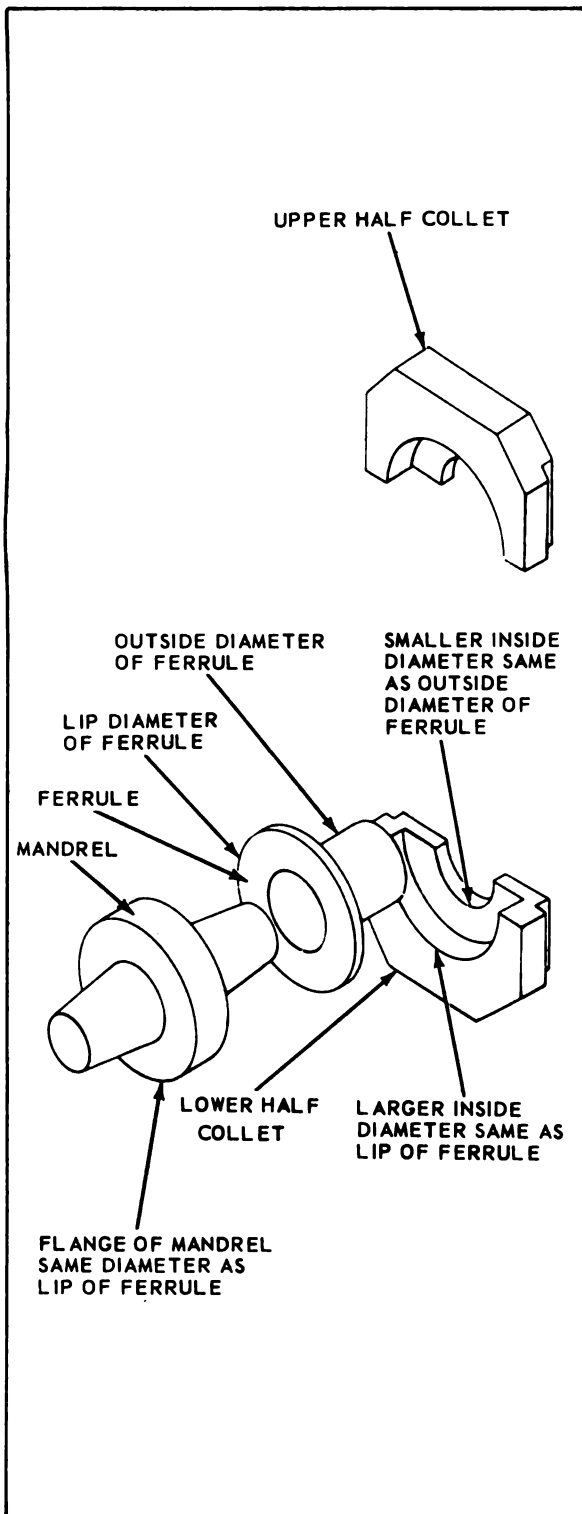

Figure 11-10. Mandrel and Collet for Amphol Machine
- a. Select mandrel with an OD that will allow ferrule being used to fit snugly on it, against the mandrel flange. Select a collet which will provide a snug fit on the ferrule lip. See figure 11-10.